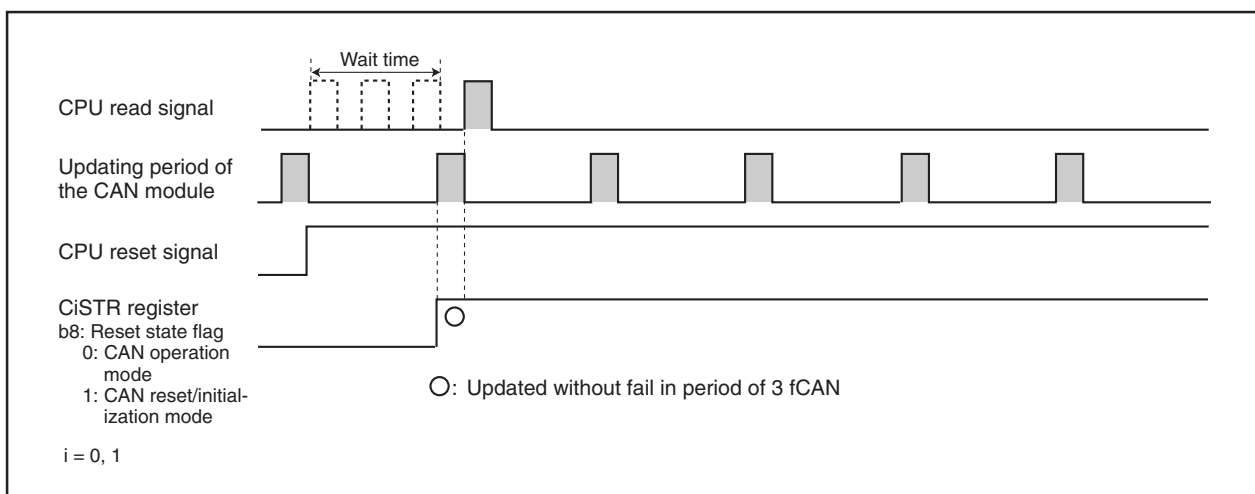

Figure 23.6 With Wait Time of 3 fCAN Before CPU Read
- (a) There should be a wait time of $3f_{CAN}$ or longer (see **Table 23.2 CAN Module Status Updating Period**) before the CPU reads the CiSTR register. (See **Figure 23.6 With a Wait Time of $3f_{CAN}$ Before CPU Read.**)